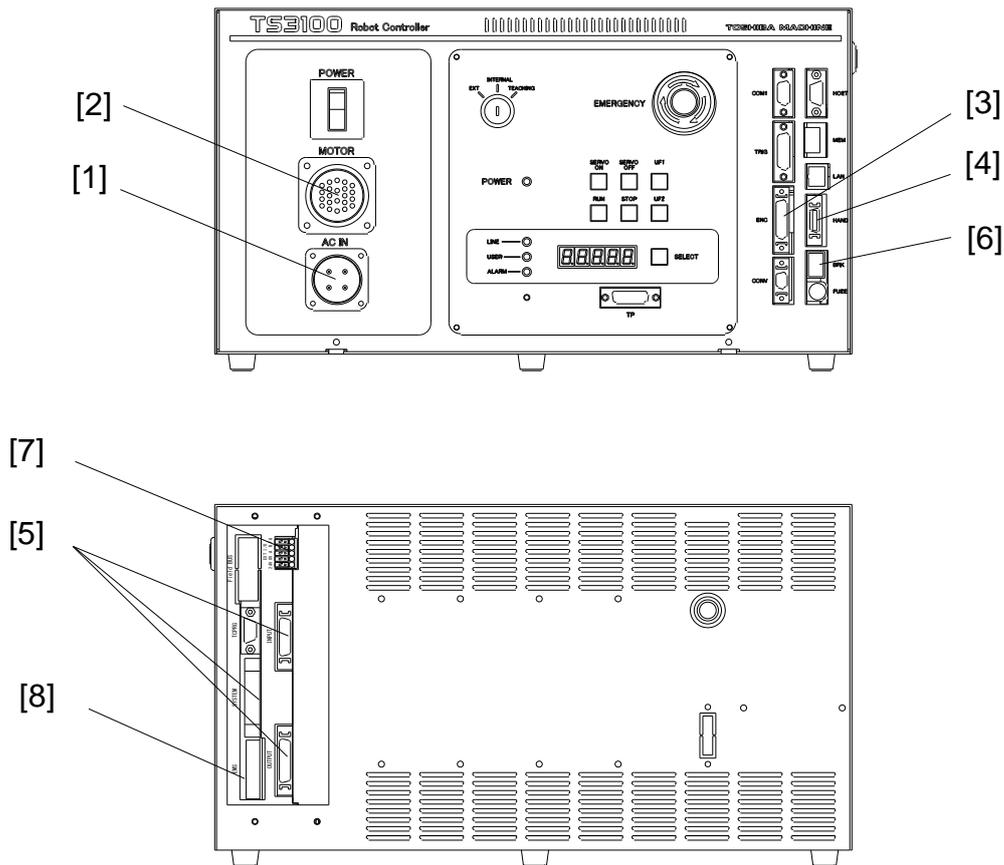
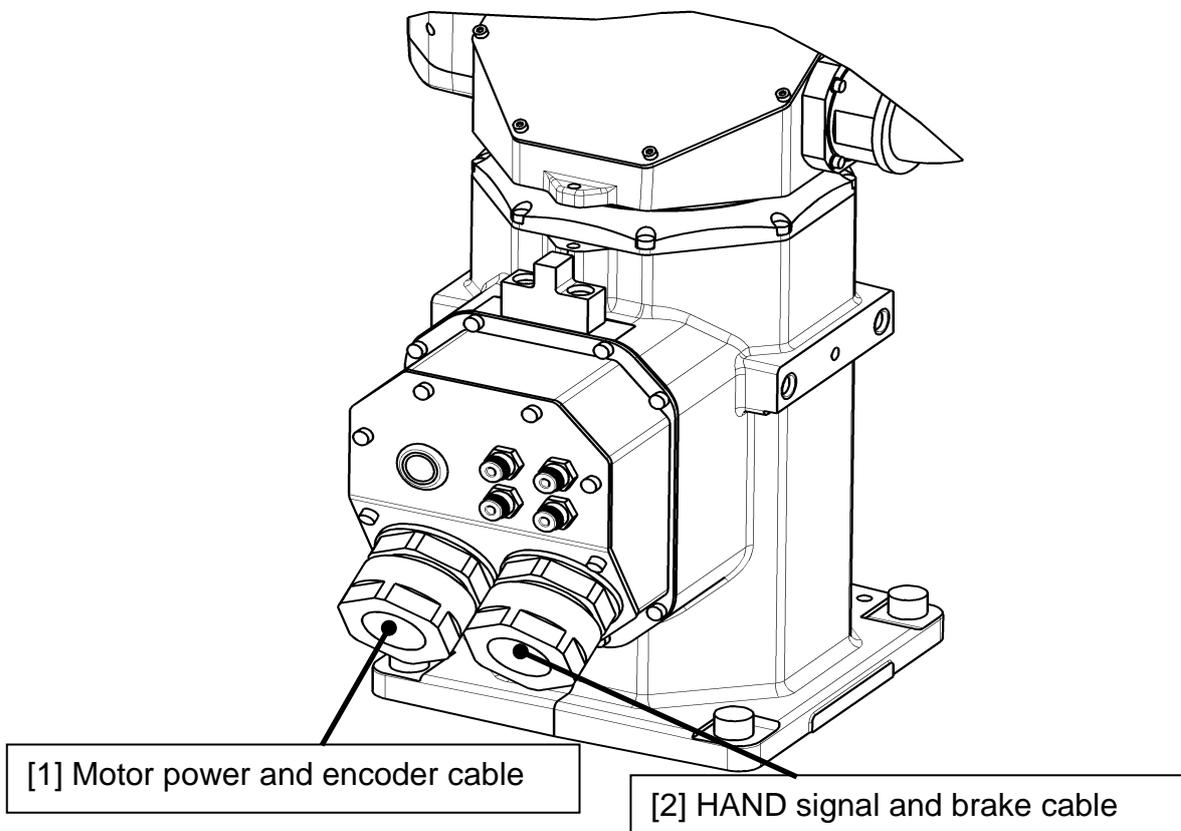

Fig. 9.1 Robot controller connector arrangement (TS3100)
Fig.9.2 Robot side connector arrangement (TS3100)
The cables connected to the robot controller are shown in Fig. 9.1.
The power cable “ACIN” ([1] of Fig. 9.1) is used to supply the main AC power to the controller.
The motor cable connector and encoder connector are for MOTOR ([2] in Fig. 9.1). The motor cable and encoder cable on the robot side are located at [1] of Fig. 9.2.
The brake signal cable used to lock the motor shaft is connected to the connector BRK ([6] in Fig. 9.1).
The robot control signal cable is connected to the connector "HAND" ([4] of Fig. 9.1).
The brake cable/robot control signal cable on the robot side are connected to [2] of Fig. 9.2.
9.1.5. Connecting Power Supply Cable for External Input/Output "GND, P24V" ([8] in Fig. 9.1